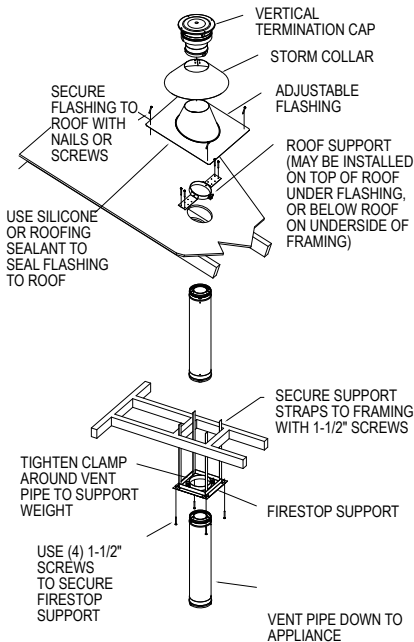

Figure 7
As the CVS vent passes through the roof, install a Roof Support at the roof level to hold the vent in place, if there are no Wall Straps within 8-ft (**Fig 7**). The Roof Support is clamped around the vent pipe and is secured to the topside or underside of the roof with at least (4) nails or wood screws.
7. Install Flashing and Vertical Termination. Install enough vent pipe through the roof penetration to allow the Adjustable Flashing to fit over the pipe. The Adjustable Flashing will fit roofs from 0/12-12/12 pitch. Slide the Flashing over the vent pipe and secure to the roof. The upper edge of the flashing should slide under the uphill shingles/roofing material, if applicable. Use appropriate roofing sealant to weatherize the flashing to the roof, and secure the flashing in place using at least (4) roofing nails/screws per side of the flashing (**Fig 7**).
The vent pipe must extend above the roof a minimum of 12", but the installation must also meet any additional height requirements as specified in the appliance manufacturer's installation instructions. Once the required vent height has been reached, twist-lock the Vertical Termination Cap onto the top section of CVS vent pipe to complete the Vertical Installation (**Fig 7**). If more than 4 feet of CVS extends above the roof, then the vent pipe will need to be supported.